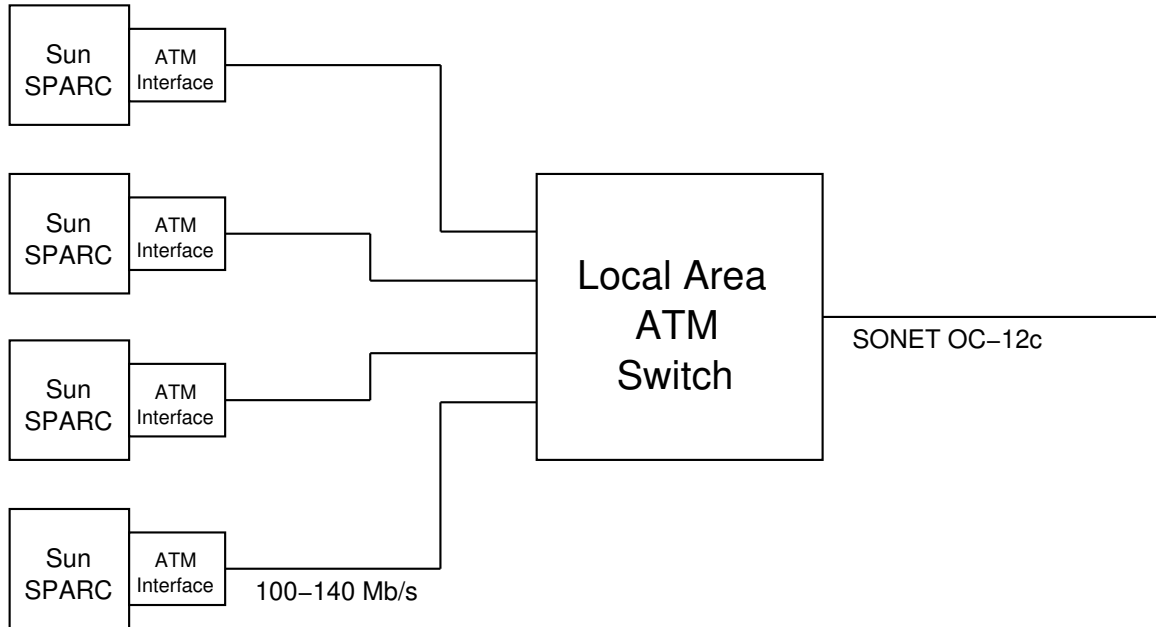
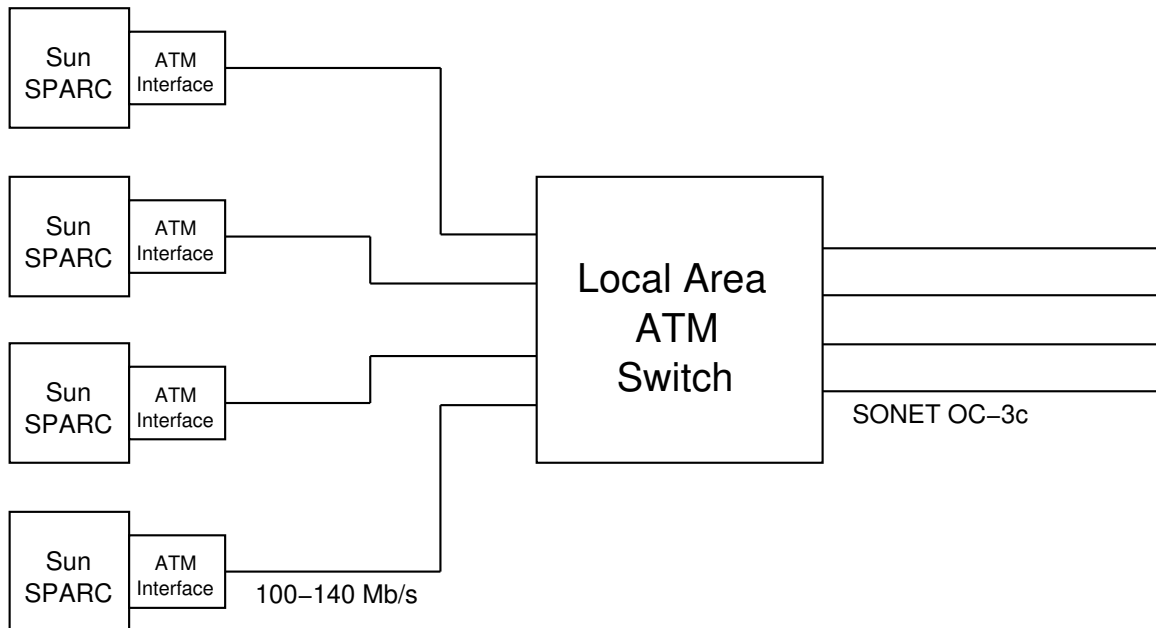

Figure 1: Configuration 1A—ATM Switch with 622 Mb/s SONET Interface
Figure 2: Configuration 1B—ATM Switch with 155 Mb/s SONET Interfaces
Figure 1 shows the configuration of the local ATM switch.
It may be possible for the ATM switch to connect to the 622 Mb/s SONET link using four 155 Mb/s (OC-3c) SONET links (configuration 1B). This is illustrated in figure 2. However, a single 622 Mb/s SONET link (configuration 1A) is strongly preferred.
- Provide a price and schedule quotation for delivery of configuration 1A (figure 1), including applicable discounts. Staged delivery with configuration 1B (figure 2) as an interim step may be acceptable.